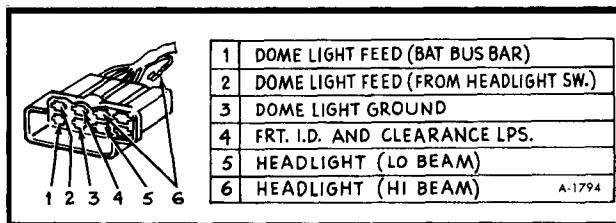

Figure 25—Front Roof Wiring Connector
Dome lights, headlamps and front clearance lights are fed through an (8) way multiple connector located under the instrument panel. The front lighting wiring is part of the instrument panel wiring harness. Figure 25 shows the female portion of the front lighting harness and the appropriate wire position in the connector body.